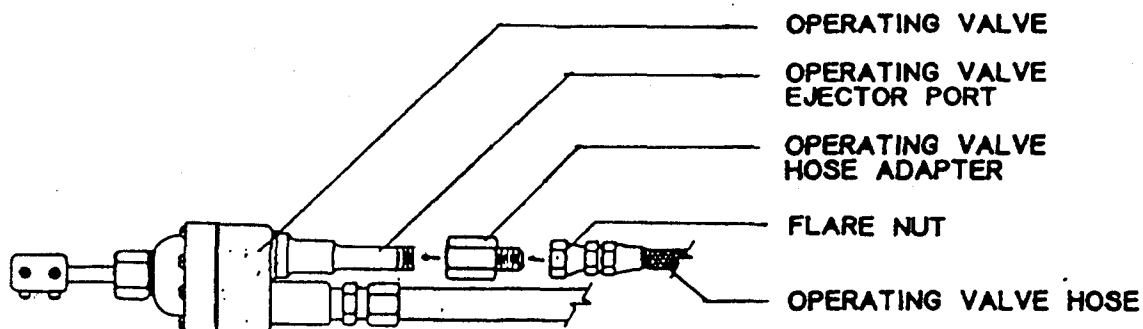

Figure 2-7. Modification of Operating Valve.
h. Operating valve hose installation: Thread the operating valve hose adaptor onto the operating valve ejector port and tighten (figure 2-7). Attach the flare nut on one end of the operating valve hose to the operating valve hose adaptor. (Do not tighten the nut at this time.)